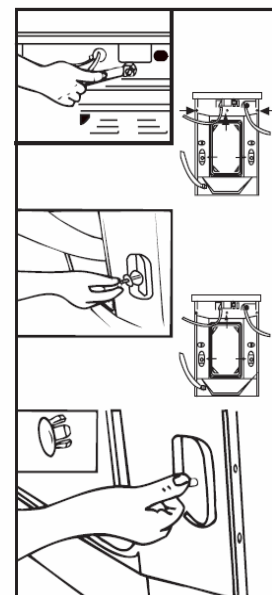

Fig. 2
- Dismantle the packing bolts as shown in Fig. 2. The packing bolts are designed for clamping anti-vibration components inside of the washing machine during the transportation process. Before use: